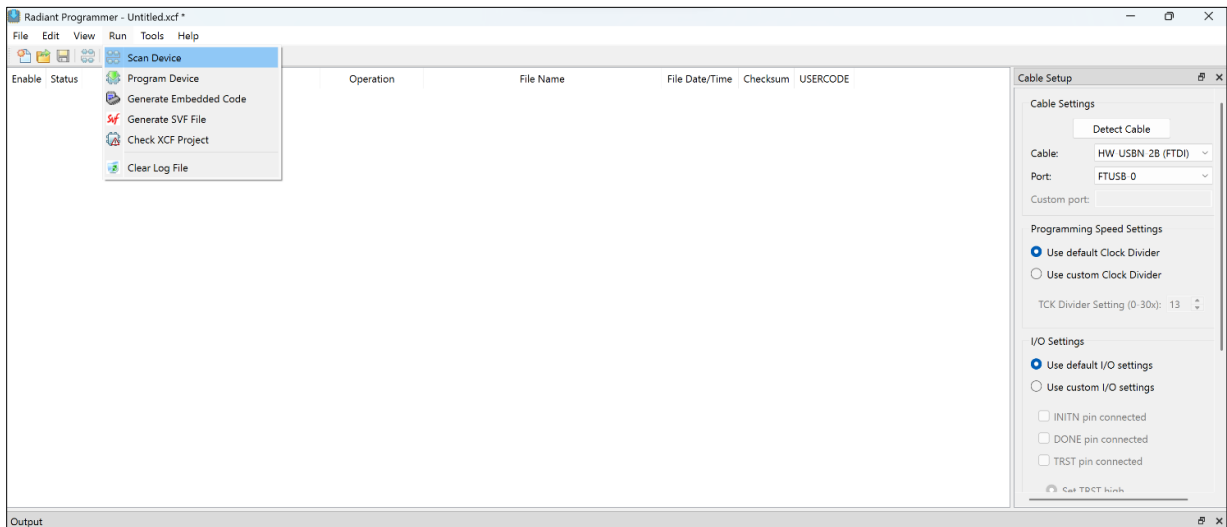
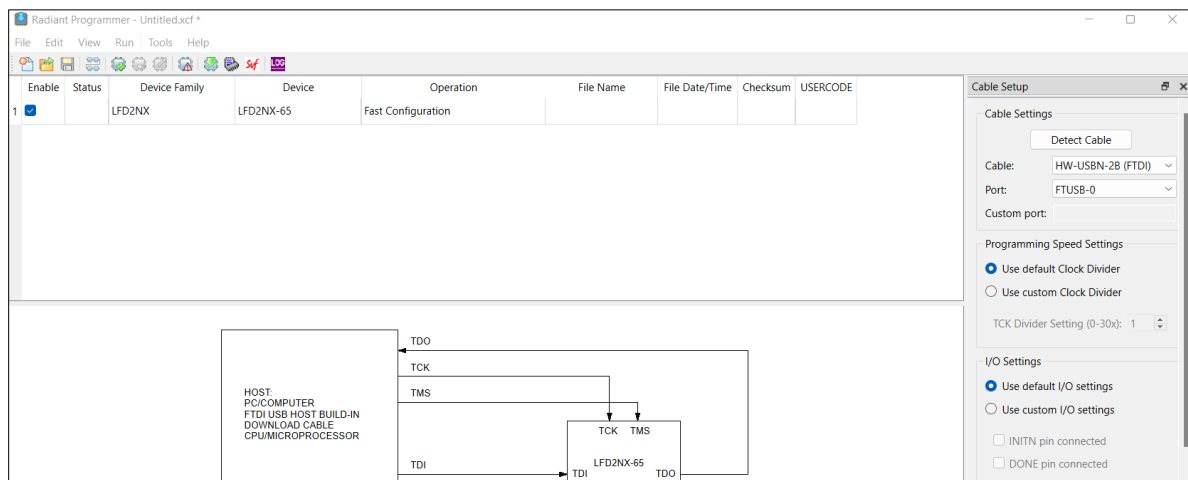

Figure 5.3. Radiant Programmer – Scan Device
Figure 5.4. LFD2NX-65 Device Detected
- Click **Run > Scan Device** to check the board through the FTUSB-0 Port of the embedded HW-USBN-2B(FTDI) cable, as shown in Figure 5.3. The Certus-NX-65 device named LFD2NX-65 should be detected on the JTAG chain, as shown in Figure 5.4.